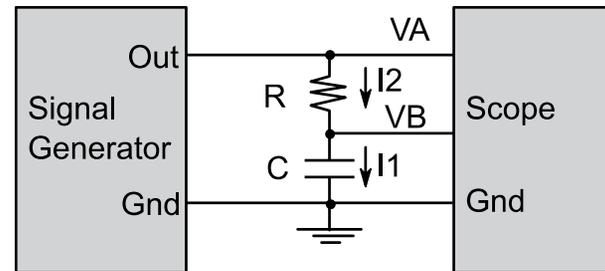

Figure 2. Resistance-capacitor circuit.
You will use the circuit shown in Figure 2 to study the behavior of capacitors. As mentioned earlier, we will study the circuit in the AC, or time-varying mode. You will use a signal generator to create an AC signal on VA and use an oscilloscope to measure the AC signal across VA-VB and on VB. It is best if the shape of the AC signal is sinusoidal, but we could perform the lab with other waveform shapes, such as square wave.
- The complex impedance model of a capacitor ( $Z=1/(j2\pi fC)$ ). Notice that  $X = |Z|$ . The total impedance in Figure 2 is  $R+Z$ . The gain of the circuit (VB/VA) can be calculated as  $Z/(R+Z)$ . Calculate the gain of the circuit at its cutoff frequency.